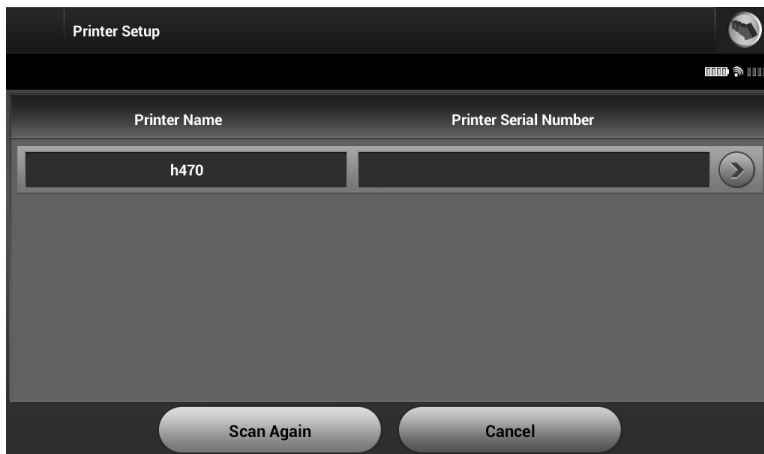

Figure 9: *Printer Selection screen*
3. Select the printer of choice (Figure 9). If no printers are found, a window will appear stating that there are no printers. Select the Scan Again button or the Cancel button to return to the Programmer Settings screen. If a printer was selected during another session, the Printer Setup screen is displayed.
4. Once the scan is complete, the Printer Selection screen appears (Figure 9).